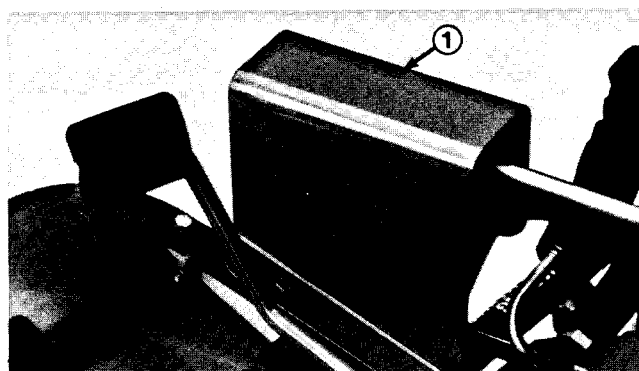

Figure 12
1. Put 1, 2 and 3 spools in neutral (center of travel) and remove transfer rod guard from foot panel (Fig. 12).
4. Install the clevis pin and cotter pin, tighten the jam nut and install the transfer rod guard (Fig. 12).